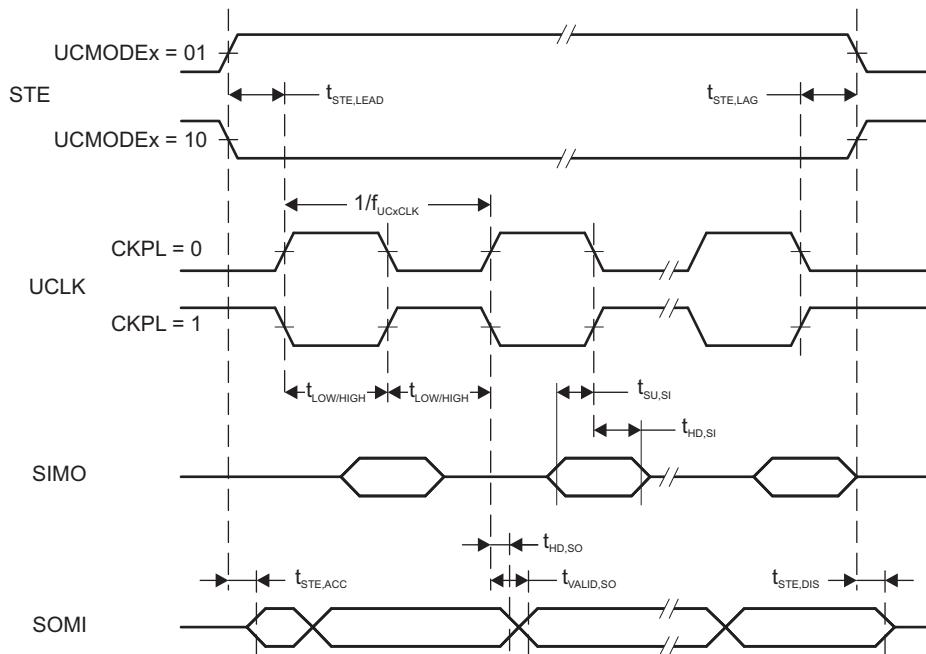
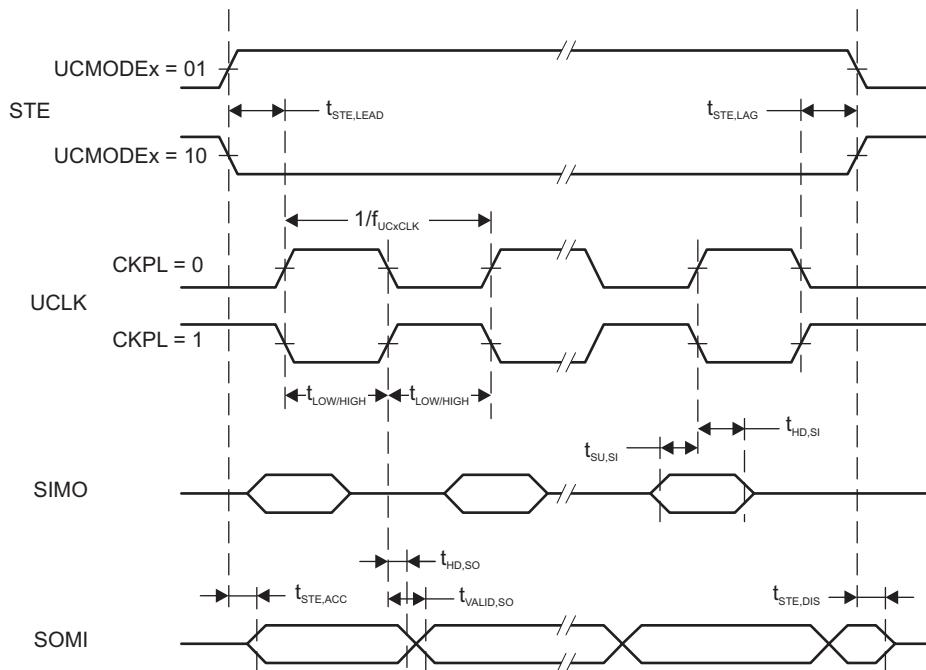

Figure 5-15. SPI Slave Mode, $\text{CKPH} = 0$
Figure 5-16. SPI Slave Mode, $\text{CKPH} = 1$
(2) Specifies the time to drive the next valid data to the SOMI output after the output changing UCLK clock edge. See the timing diagrams in Figure 5-15 and Figure 5-16.
(3) Specifies how long data on the SOMI output is valid after the output changing UCLK clock edge. Refer to the timing diagrams in Figure 5-15 and Figure 5-16.